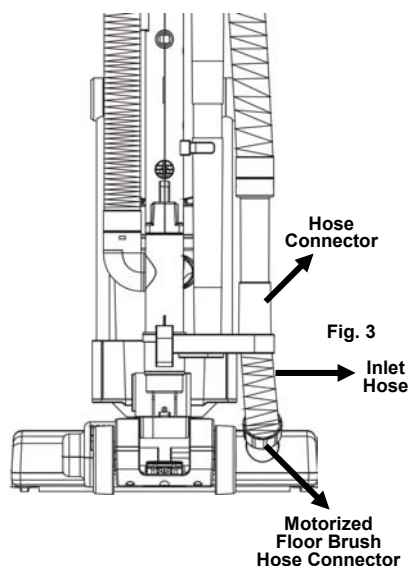

Fig. 3
- Insert the inlet hose into the floor brush hose connector that is on the floor brush. (Fig. 3)
- Hold the end of the removable hose handle and insert it into the hose connector. (Fig. 3)